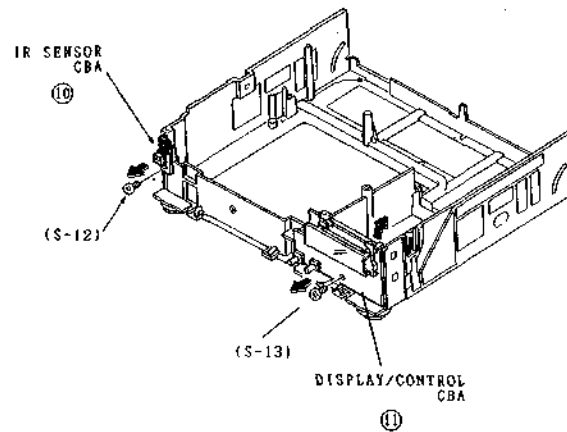

Fig. 21
- Remove the screws (Fig. 21).